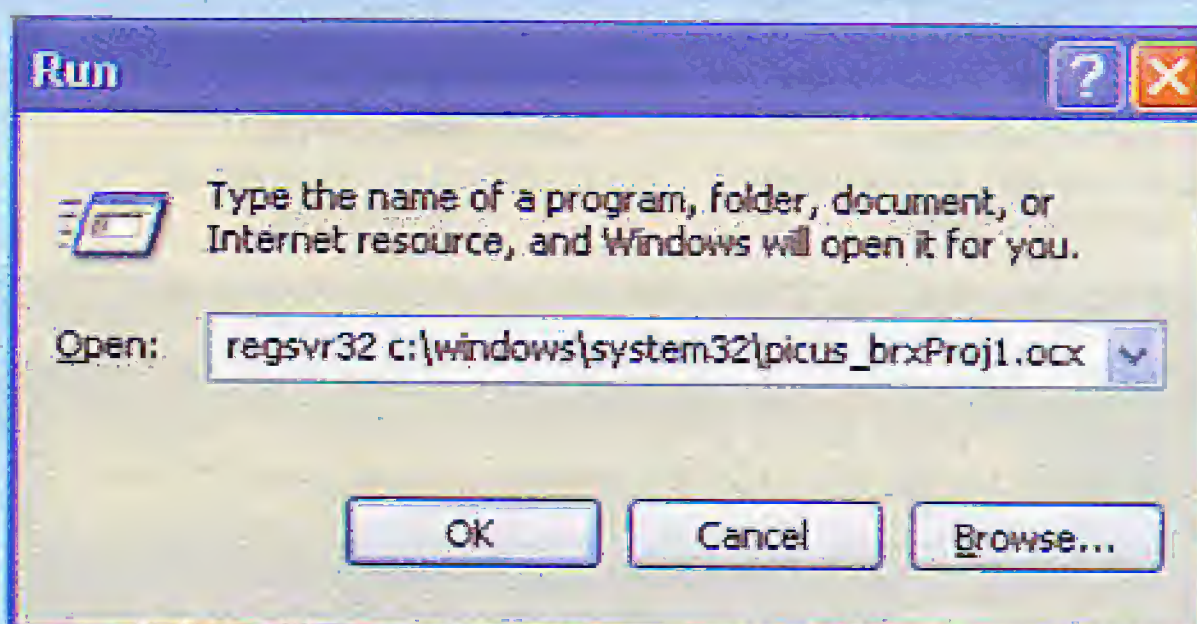
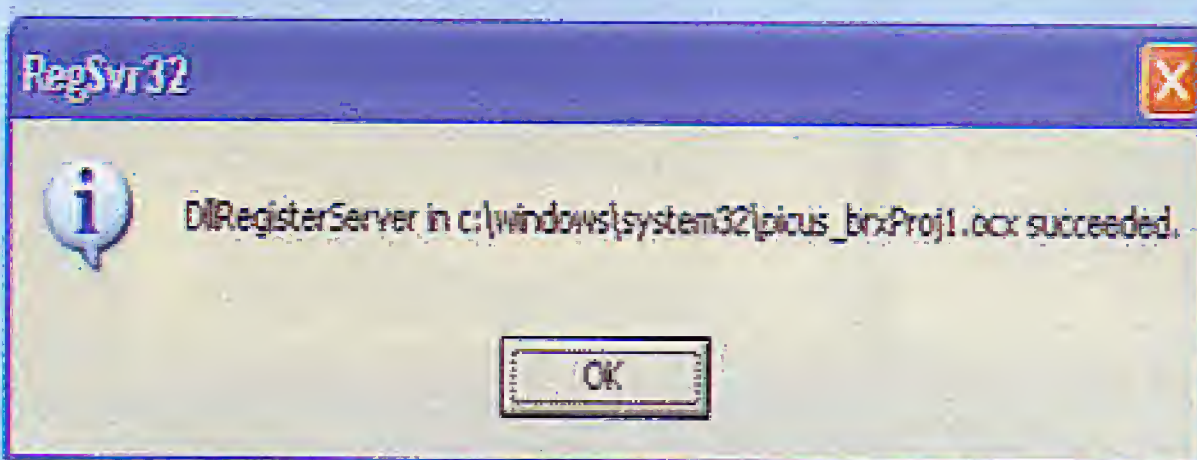

Figure 2. The Run dialog box, which everybody must surely have used at some stage.
Figure 3. When this message appears the ActiveX component has been correctly registered.
3. Click on Start, Run and type in the command *regsvr32 picus_brxProj1.ocx* (Figure 2). When this has finished, you should get the message shown in Figure 3.